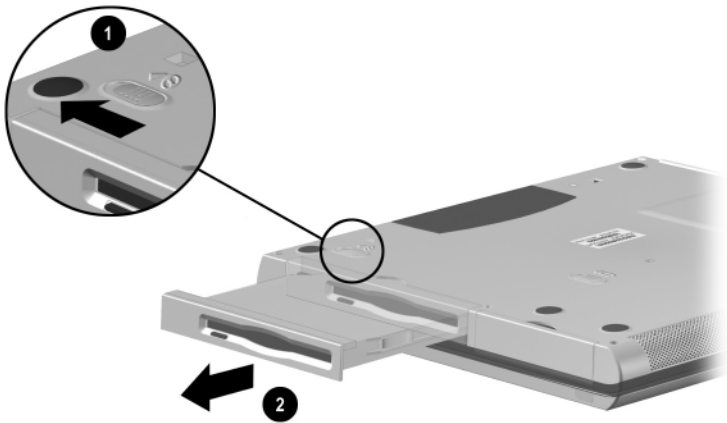

Figure 5-5. Removing a Modular Media Bay Device
- b. Slide and hold the modular media bay release switch **1** toward the back of the computer (Figure 5-5).